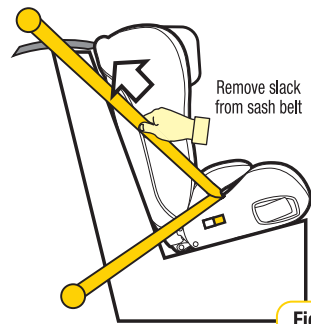

Figure 6
Step 3: Push down on the base of the restraint (with knee or hand) whilst pulling the sash section of the vehicle belt firmly up in direction of the yellow arrow in Figure 4. This will make the lap belt very tight across the restraint base. Whilst continuing to pull the sash section up (i.e maintaining tightness of the lap section). Tighten sash section of belt across the base (refer Figure 6).